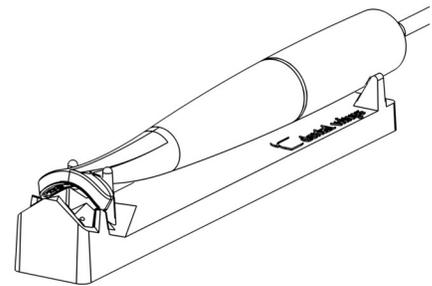

Figure 7: Using the integrity-check tool
3. Place the handpiece on the integrity-check tool, making sure both sides of the head fully rest on the tool (Figure 7).